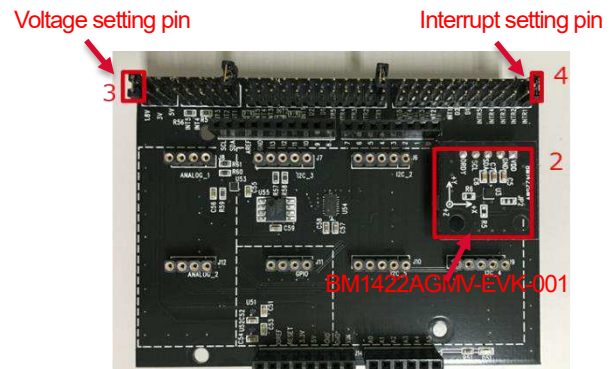

Figure 2. Connection between BM1422AGMV-EVK-001 and SensorShield
2. Connect BM1422AGMV-EVK-001 to the socket of I2C_1 on SensorShield (Figure 2)
3. Set Voltage of SensorShield to 1.8V or 3.0V (Figure 2)
4. Set Interrupt of SensorShield to INTR1 (Figure 2)